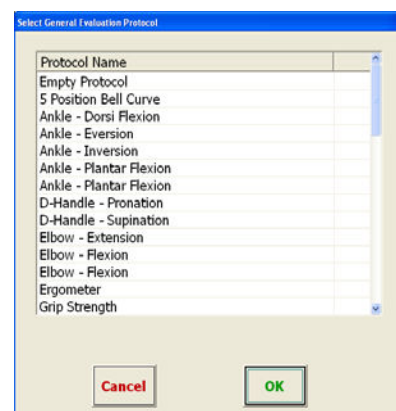

Figure 5c
- Choose a pre-defined template from the list in the "Select General Treatment Template" box (Figure 5c). Click "OK."
- b. Select “Empty Template” from the General Treatment Template list (Figure 5c). Click “OK.”
- b. Touch the name of an existing template to select (Figure 5c). Click “OK” at the bottom of the dialog box to return to *Treatment Setup*.
- c. Choose a pre-defined template from the list in the “Select General Treatment Template” box (Figure 5c). Click “OK.”
- b. Select “Empty Template” from the general Treatment Template List (Figure 5c). Click “OK.”
- b. Select an existing template. Click on the template and touch “OK” (Figure 5c). Notice that the template name is displayed in the text field directly underneath the Treatment Setup tab.